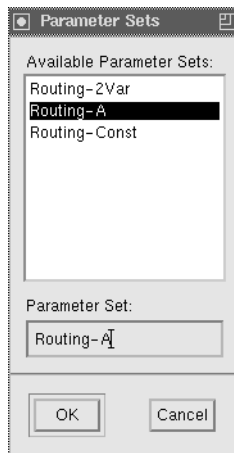

Figure 11: “Parameter Sets” dialog.
- Parameter Set** The name of the associated parameter set. Press this button in order to display the “Parameter Sets” dialog (see Fig. 11). One of the available parameter sets may be selected. Press **OK** to return to the experiment editor.